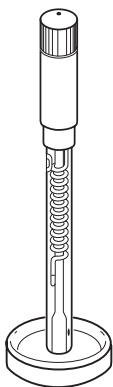

Figure 4:
- Orion 8135BNU may be used on any moist surface or in liquids. See **Figure 4**.